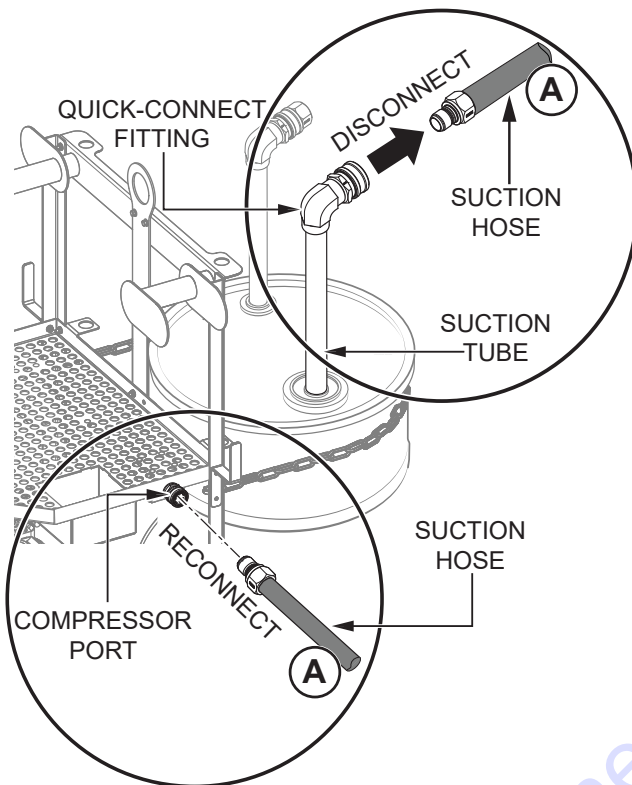

Figure 37. Compressor Connection
3. Disconnect the suction hose from the quick-connect fitting on the suction tube (Figure 37). Leave the other end of the suction hose connected to the pump.
4. Connect the free end of the suction hose (Figure 37) to the compressor port on the right side of the spray cart.